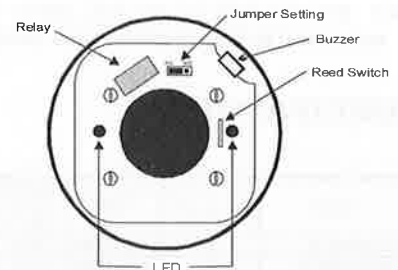

Fig. 4 Schematic of detector structure When front cover is open.
- To adjust the normal condition of the relay to "normally closed" (NC),
- Refer to Figure 4. There is a jumper head next to the relay on the PCB. Remove the jumper head and reinsert it in the NC position.